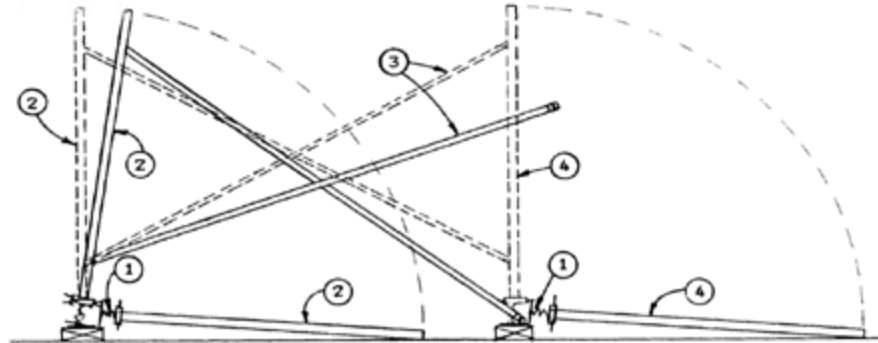

Fig. 33
5. Tilt up frame on sill and install one cross brace. Allow end of cross brace to rest on the opposite side frame sill. Raise the opposite side frame on sill and attach free end of the cross brace. Install second cross brace to frames (Fig. 33).